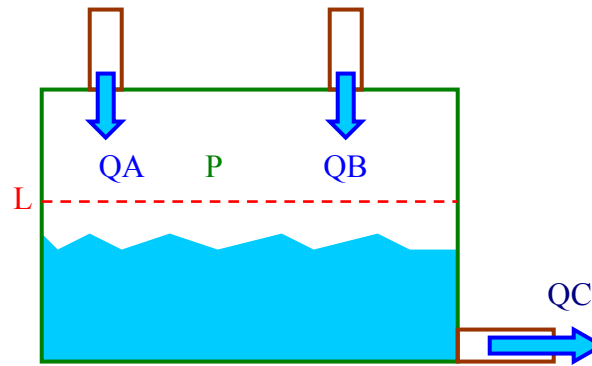

Figure 1
- 3.16 A tank shown in the Figure above (Figure 1) has the following Boolean variables: flow rates, QA, QB, and QC; pressure, P; and level, L. All are low if the variable is high and high otherwise. Devise Boolean equations for two alarm conditions as follows: